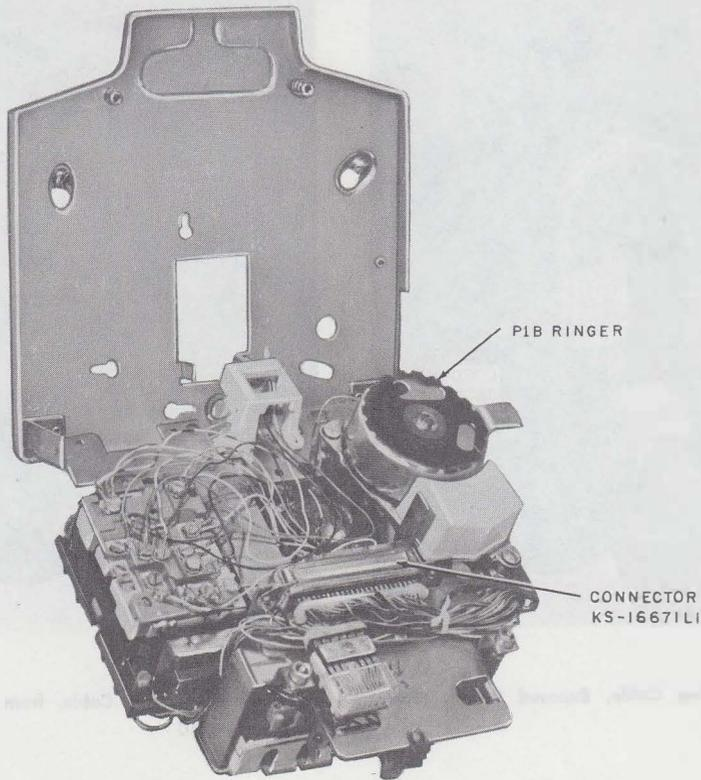

Fig. 6—851CM or 2851CM Telephone Set Showing KS-16671LI Mounting Cord Connector
**3.09** The 851CM and 2851CM telephone sets are equipped with a KS-16671L1 connector (Fig. 6). An A25B connector cable is required to connect set to key equipment.
**4.03** For sets equipped with the KS-16671L1 (Fig. 6) an A25B connector cable is required.